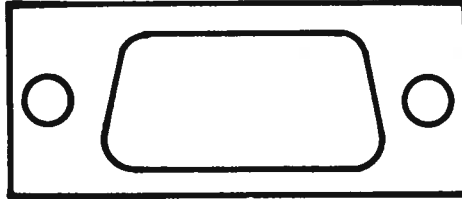

Figure 2.18 Filter Changer 1 and 2 Connectors
2.2.3 FILTER CHANGER 1 and 2 CONNECTORS (Optional) (Figure 2.18)